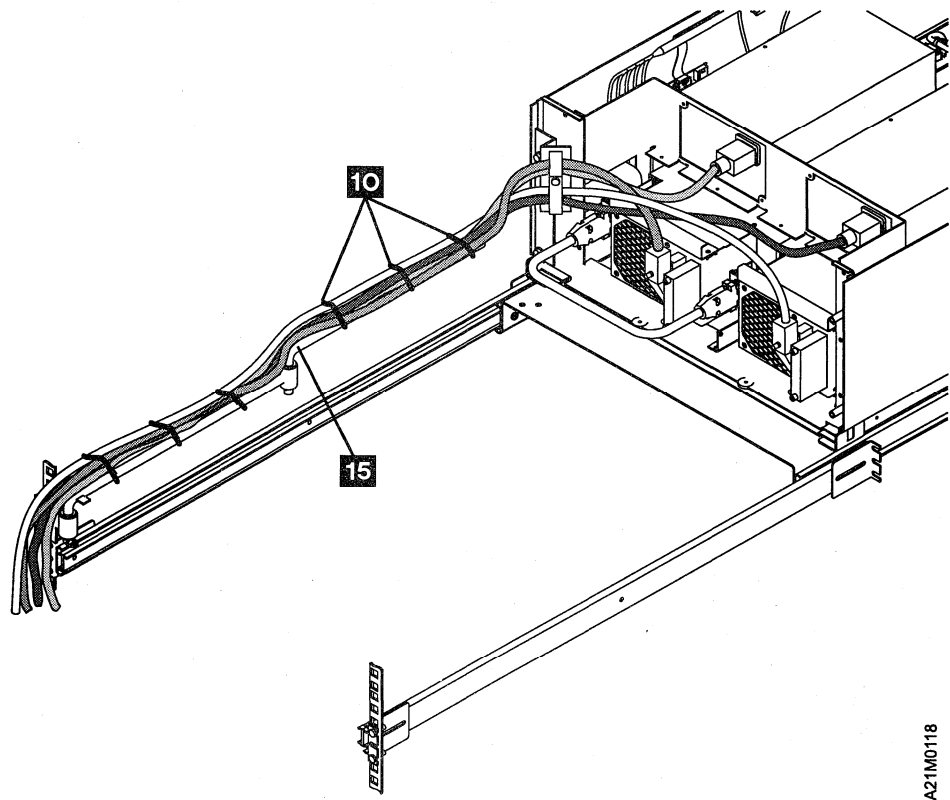

Figure 67. 3570 and Articulated Arm Extended for Model C22 Dual-Drive Dual-Host
- \_\_\_ Step 7. See Figure 67. Push the 3570 completely forward so it will lock into position, then extend the articulated arm to its full length toward the 3570 library.